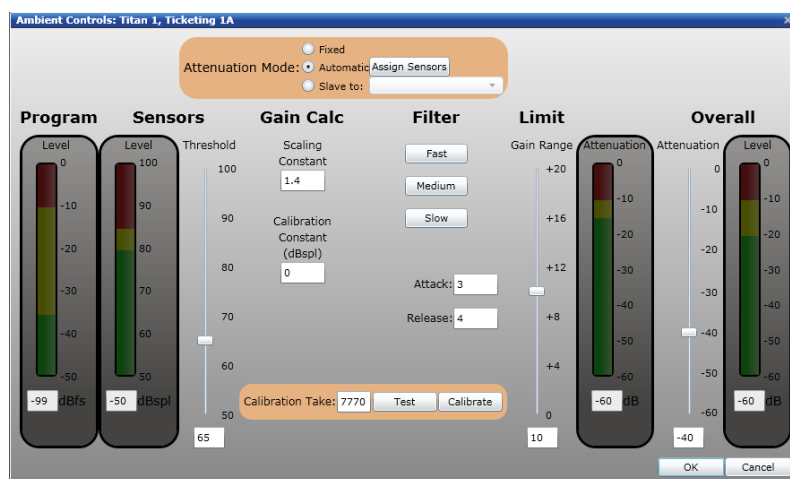

Figure 6-77: Ambient Analysis
Titan series T9116 frames are equipped with ambient noise compensation (Ambient Analysis) capabilities when paired with a noise sensor collector, such as a T9032NS. Ambient Analysis adjusts the output attenuation of a channel in response to ambient noise level measured in the area served by the channel. Anywhere from one (1) to four (4) ambient noise sensors can be assigned to each channel. Channels can also be slaved to other channels. Click the **Ambient** button for the channel you wish to configure to open a window such as that shown in Figure 6-77.
The **Scaling Constant** determines the amount of ambient noise level that will result in the output level to increase by 1 dB. A scaling constant of 1 will result in the output level increasing by 1 dB for each 1 dB increase in ambient sensor level. Figure 6-77 shows a scaling constant of 1.4. With this setting, a 1.4 dB increase in ambient sensor level will result in a 1 dB increase in output level up to the point where the **Limit** has been reached.